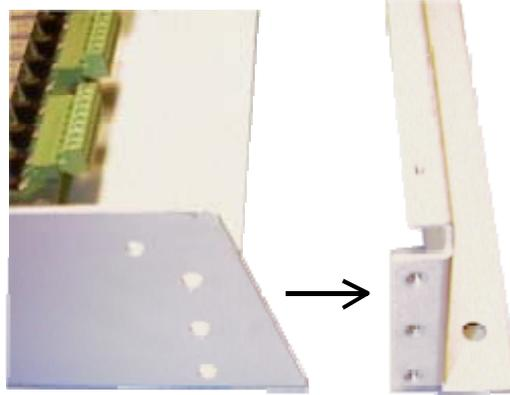

Figure 5: Bottom access plate screw removal
D. Remove the six (6) screws that attach the BOTTOM access plate to the enclosure as seen in Figure 5. There are three (3) screws on each side.